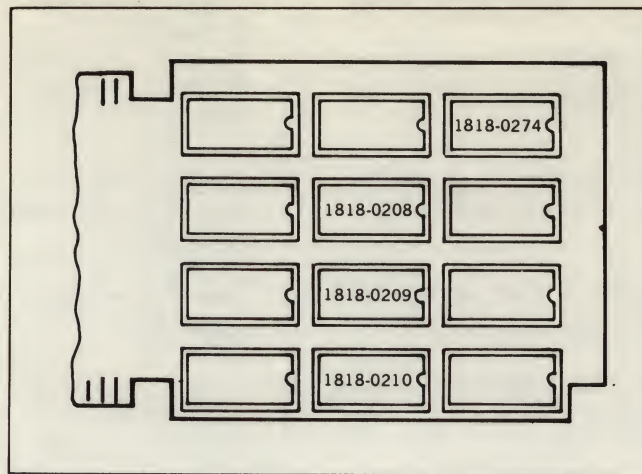

Figure 7-37. 13261A Device Support Firmware IC Locations on Control Memory PCA (HP 2641A)
- d. Figure 7-37 shows the HP 13261A Device Support Firmware IC locations on the Control Memory PCA. Perform the procedure for "13261A Device Support Firmware," except use ROM IC 1818-0274 instead of 1818-0211.